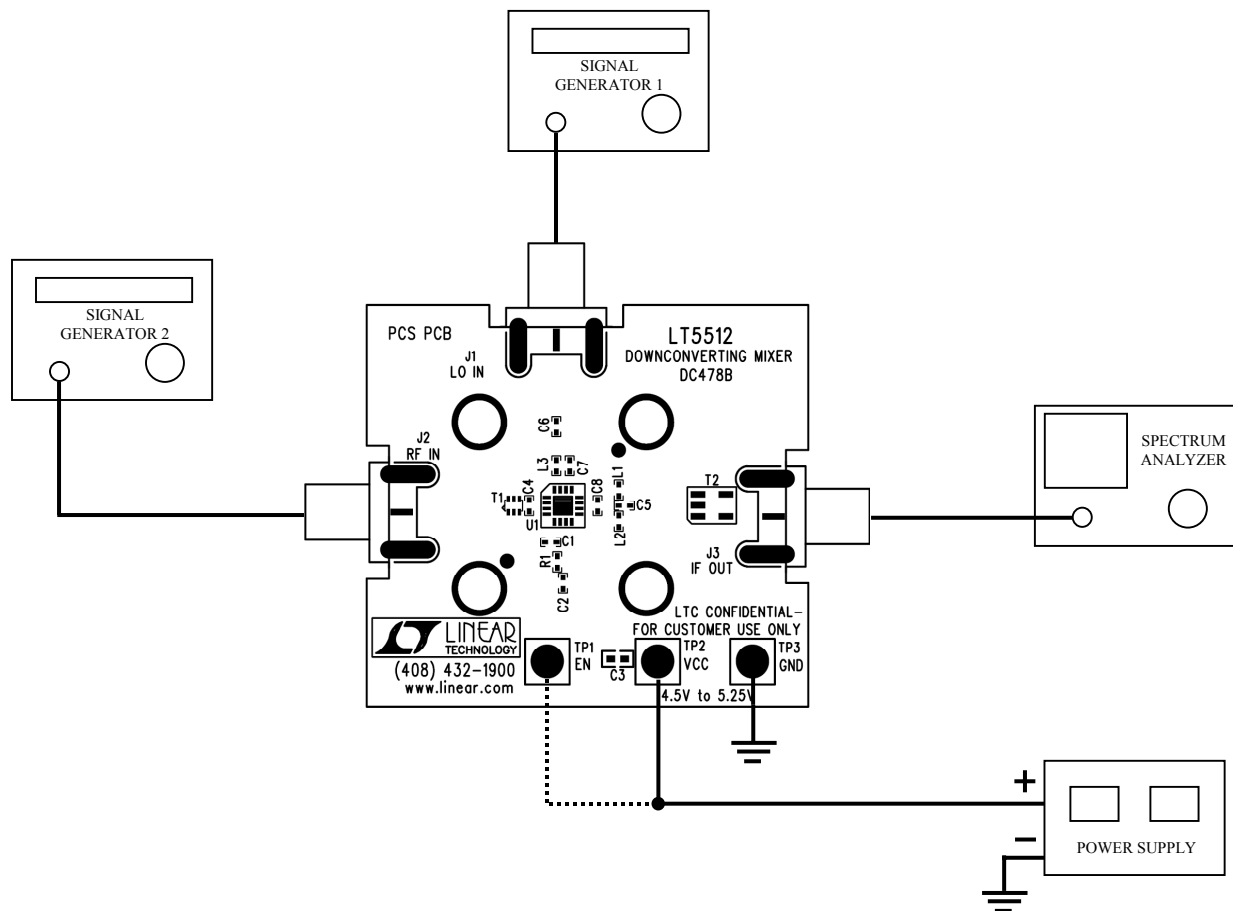

Figure 2. Test Set-Up for Mixer Single-Tone Measurements.
1. Connect all test equipment as shown in Figure 2.
3. Connect TP1 (EN) to the 5V power supply. Mixer is in ENABLE mode.